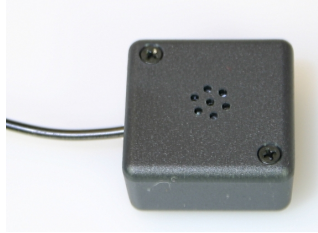

Figure 3 *Power supplies of the SyncBox. The left picture shows the 5V VDC power supply, the one on the right the USB-to-5V supply cable.*
- Power supply (2x) — You can either use the 5V VDC 'medical' power supply or the USB-to-5V supply cable to get power from a PC (see Figure 3).
The SyncBox gets its power (5 VDC) from the provided power supply or from the USB port of a computer via the supplied USB-to-5V cable (see Figure 3). All signals are functional once you plug in the power supply.